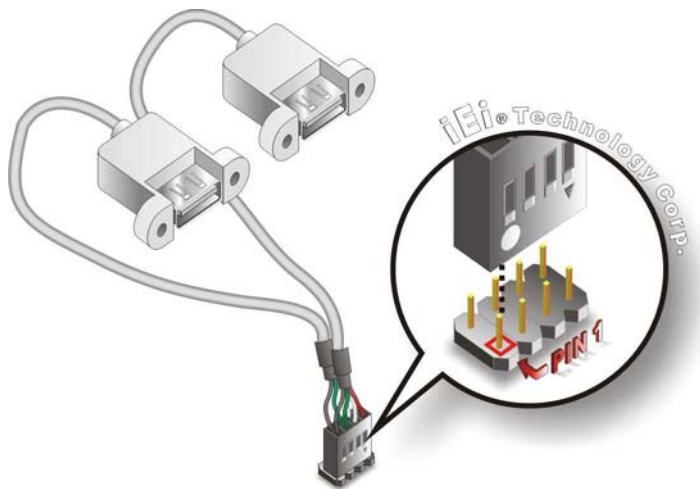

Figure 4-19: Dual USB Cable Connection
- Step 3: Insert the cable connectors.** Once the cable connectors are properly aligned with the USB connectors on the NOVA-HM551, connect the cable connectors to the on-board connectors. See Figure 4-19.